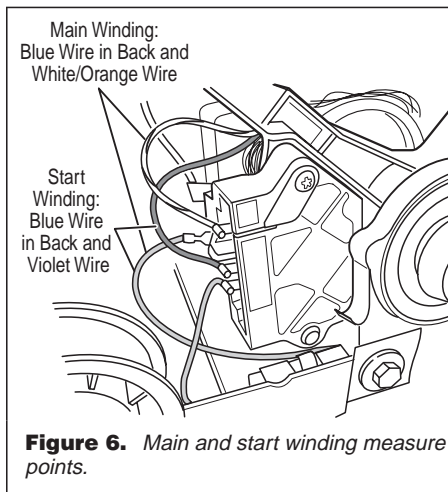

**Figure 5.** Remove white connector.
5. Remove the white connector from the drive motor switch. See figure 5.